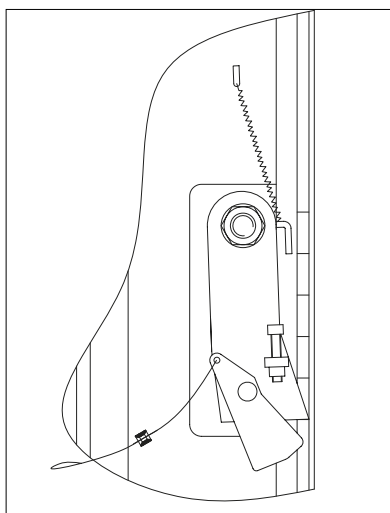

Fig. 17
- ◆ If the hydraulic cylinder breaks, the safety wedges will trip (*Fig. 17*), located inside the posts. The wedges are pushed by the spring and immediately stop the carriage preventing their descent.